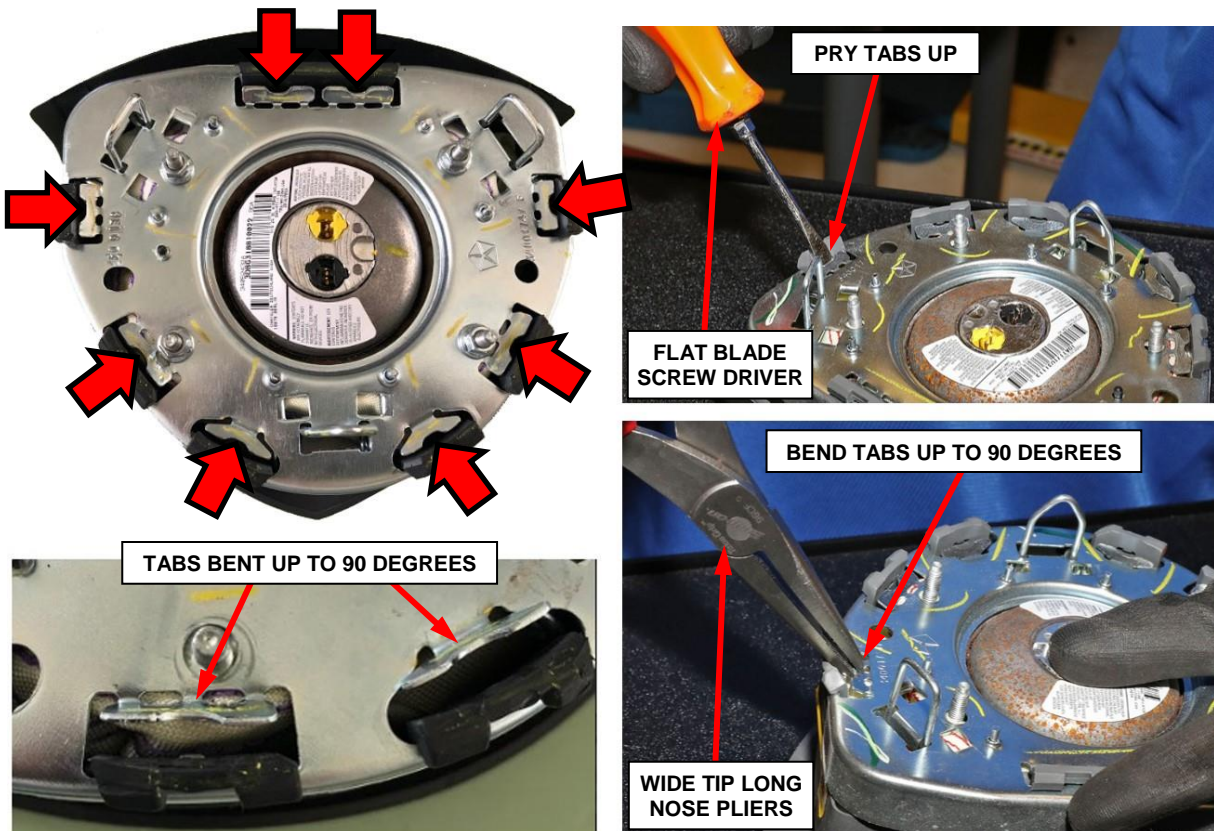

Figure 7 – Bend Metal Backing Plate Tabs to 90 Degrees Upright Position
2. Start with a flat blade screwdriver to begin lifting up the eight backing plate tabs then using wide-tipped long-nose pliers, finish bending tabs 90 degrees to an upright position, no further (Figure 7).